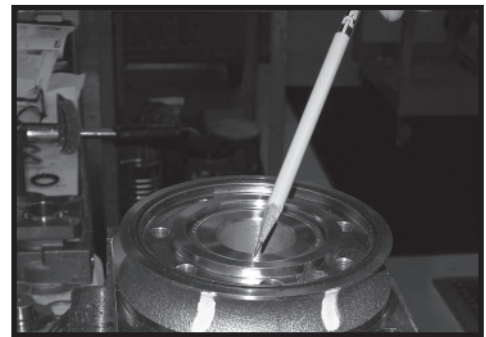

Figure 48
NOTE: The coupling shaft (12) will be flush or just below the housing wear surface on Small Frame, Series TC, TS, TB, TE & TJ Torqmotors™ when properly seated while the coupling shaft (12) on Large Frame, Series TF, TL, TG, or TH Torqmotors™ will be approximately .10 inch (2.54 mm) below the housing wear plate surface to allow the assembly of thrust bearing (11). The coupling shaft must rotate smoothly on the thrust bearing package. SEE FIGURE 48.